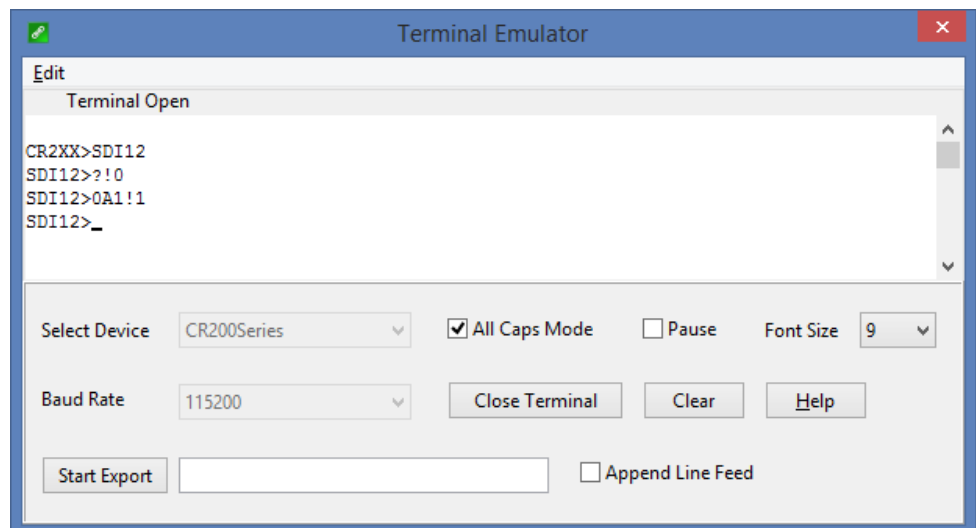

Figure D-2. CR200(X) example of using the SDI-12 transparent mode to change the SDI-12 address from 0 to 1
10. To change the SDI-12 address, type **aAb!**, where **a** is the current address from the above step and **b** is the new address (see Figure D-2). Press Enter. The sensor changes its address and responds with the new address.